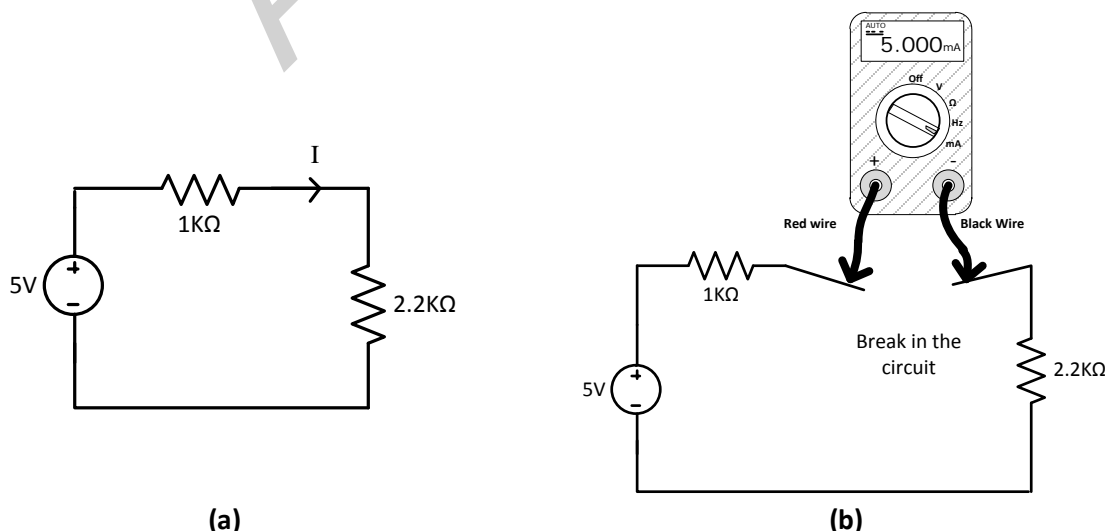

Figure 1.5: Circuit diagram and actual connection for measuring current
1. To measure the current in the series circuit in Fig 1.5(a) construct the circuit and then **create a break** the circuit as shown in Fig 1.5 (b)
3. Connect the red and black multimeter lead as shown in the Fig 1.5(b) (**in series with the circuit**)